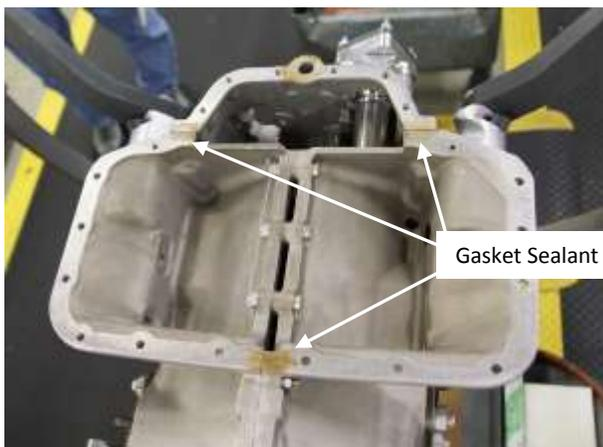

Figure 12
- D. Apply a dab of Gasket Sealant #4 (or equivalent) to three places in the split line between the accessory housing and crankcase where they mate with the oil sump (Figure 12).